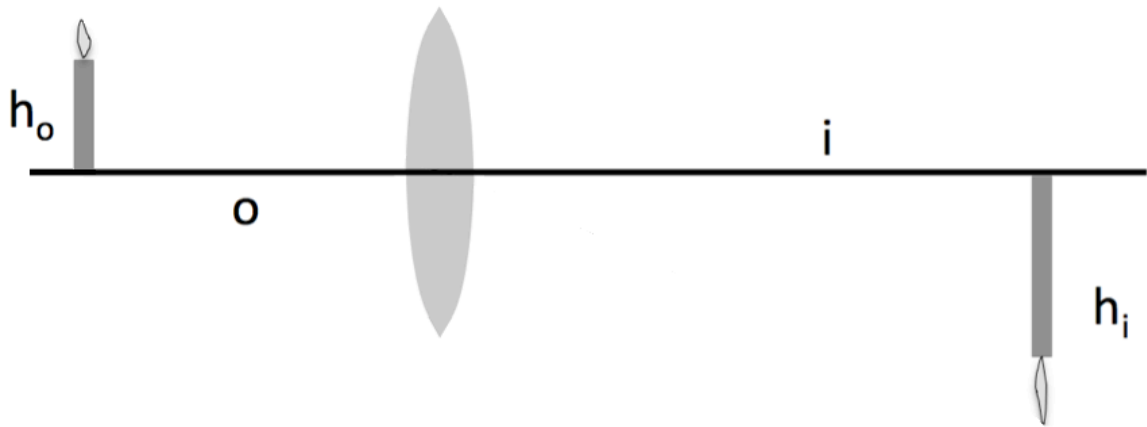

Figure 3
- Explain the result — think of the ray that passes through the center of the lens, as you can see in Fig. 3.